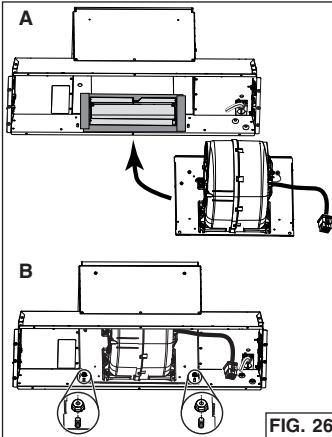

FIG. 26
5. Insert the blower with its support plate inside the unit, where the back plate was initially (A). Attach to the unit using 2 nuts previously removed in step 8 in PREPARE THE UNIT section (B) (FIG. 26).